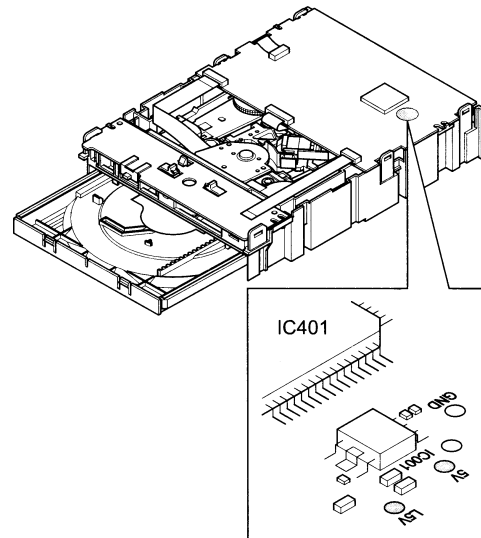

Figure 5. Laser Voltage Test Points
8.5 Measure and record the voltage at the point 5V and L5V. Be sure to use the GND pad near the 5V and L5V points. See Figure 5.